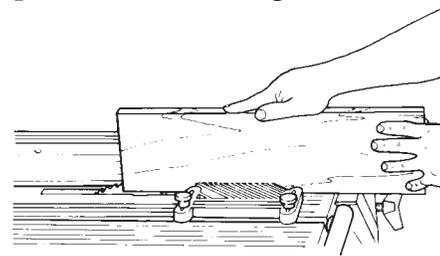

Figure A-7
- Use the feather board to press stock against the rip fence. Mount the feather board in either table slot. The fingers must be angled in the same direction that you feed the stock— use the arrow on top of the feather board as a guide. Position the fingers so they press against the stock just before it gets to the blade or cutter, then tighten the locking knobs. See Figure A-7. To reverse the direction of the fingers, remove the mounting bar, turn the feather board over, then replace the mounting bar.